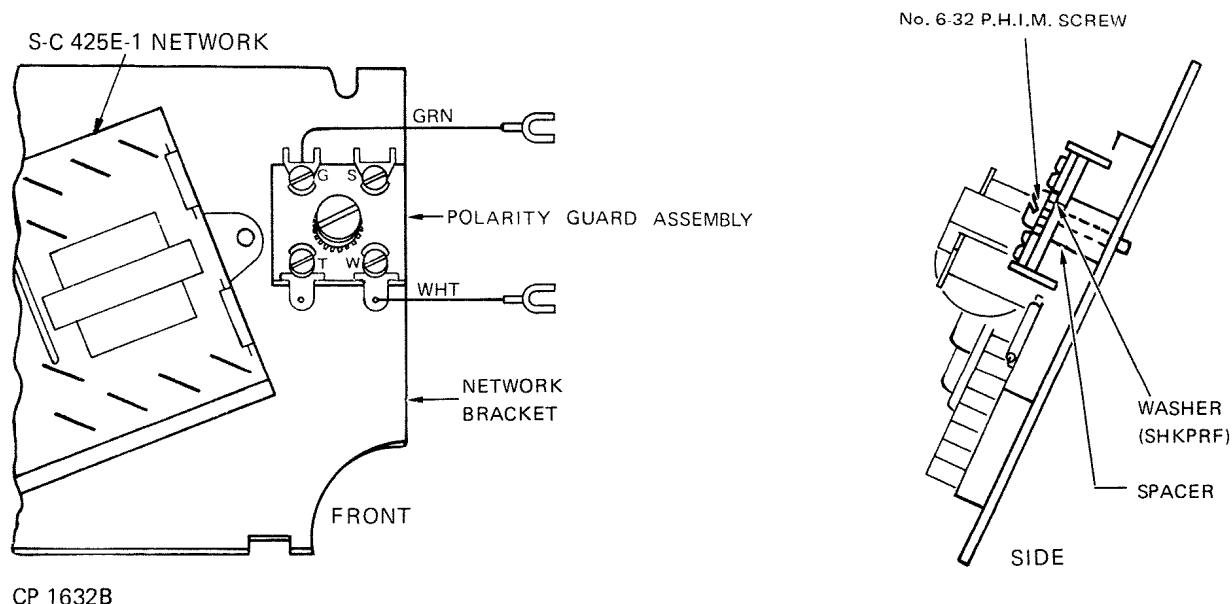

Figure 6. Polarity Guard Mounting
a. Mount polarity guard assembly as shown in figure 6 and secure with screw provided.